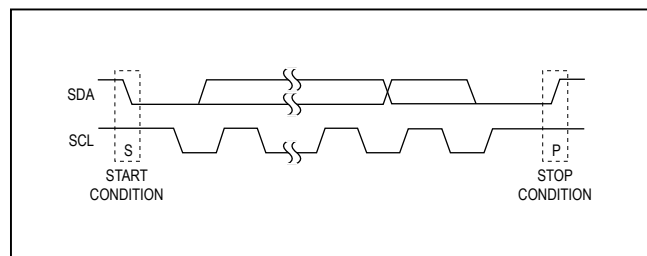

Figure 2. Start and Stop Conditions
addresses plus R/ $\bar{W}$ bits, one or more data bytes, and finally a STOP condition (Figure 2).
Both SCL and SDA remain high when the interface is not busy. A master signals the beginning of a transmission with a START (S) condition by transitioning SDA from high to low while SCL is high. When the master has finished communicating with the slave, the master issues a STOP (P) condition by transitioning SDA from low to high while SCL is high. The bus is then free for another transmission (Figure 2).